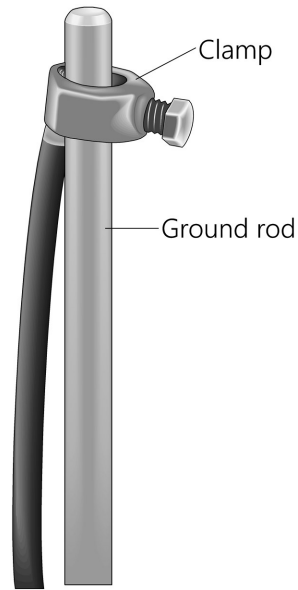

FIGURE 7-9. Ground rod and clamp
2. Loosen the bolt that attaches the clamp to the ground rod. Insert one end of the 4 AWG wire between the rod and the clamp and tighten the bolt (FIGURE 7-9 (p. 18)).